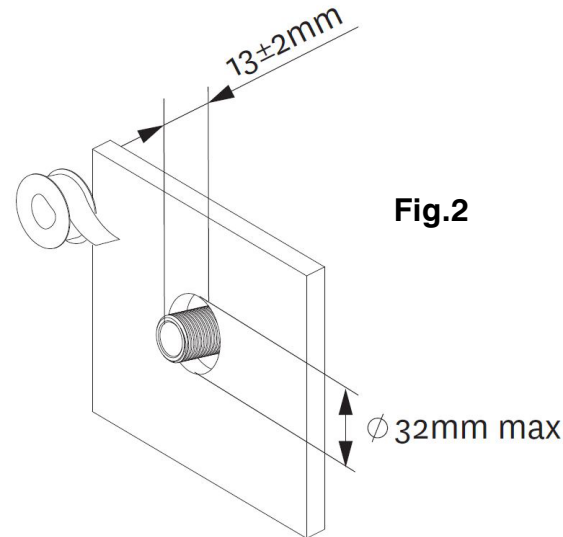

Fig.2
- 1) Wall lining hole should be cut or finished as per the dimensions shown (Fig.2).
- 2) The end of the threaded nipple must be $13 \pm 2\text{mm}$ from the wall/tile face, as shown (Fig.2). Cut to length using a nipple cutter fitted to a hand held power drill. Apply thread seal tape to the thread. **Important:** Care must be taken that thread seal tape cannot become dislodged and block the flow regulating device, causing a reduction in water flow.